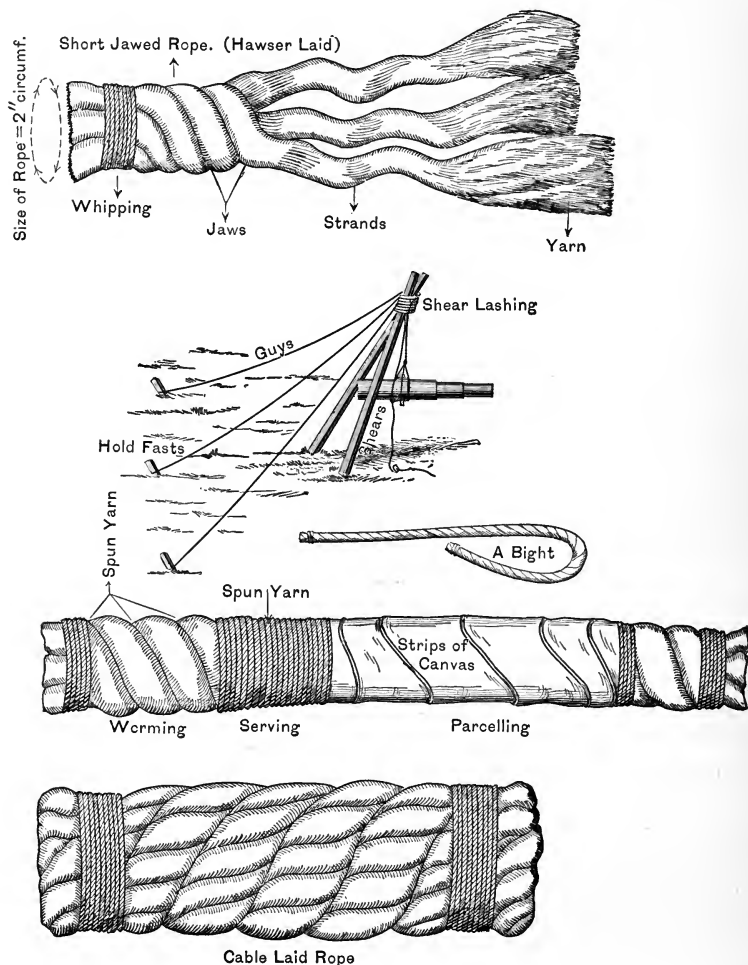

FIG. 44.
A. Cable-laid rope is composed of nine strands, and is made by first laying up three ropes of three strands each with the sun, and then laying the three ropes together into one, against the sun. Hawser-laid rope must be coiled with the sun. Hawser-laid rope is a right-handed sope, and cable-laid is therefore left-handed. (See Fig. 44.)
A. The size of the rope is always denoted in inches and fractions, and is measured on the circumference. (See Fig. 44.)
A. (a) Worming a rope is filling up the divisions between the strands by passing spun-yarn along them. (b) This is to render the surface smooth for parceling and serving. (See Fig. 44.)
A. (a) Parceling rope is wrapping narrow strips of canvas about it, well tarred, put on with the lay of the rope. (b) To secure it from being injured by rain-water or to prevent chafing or cutting of a rope when a strain is brought against a rough surface or sharp edge. (See Fig. 44.)
the surface very uneven. But a large rope is always wormed and parceled before being served. (b) The service is put on against the lay of the rope. (See Fig. 44.)
A. (a) Whipping is securing the end of a rope with twine. (b) To prevent it from fraying out. (See Fig. 44.)
treble block, and one snatch-block for the main-tackle fall; guys, head-lashing, heel-lashing, and straps for main tackle; snatch-block, holdfasts, and some spun-yarn for mousing, etc.; two cleats for heels to prevent lashing from slipping; stakes for holdfasts for guys and heel-posts; two shoes for heels. (See Fig. 44.)